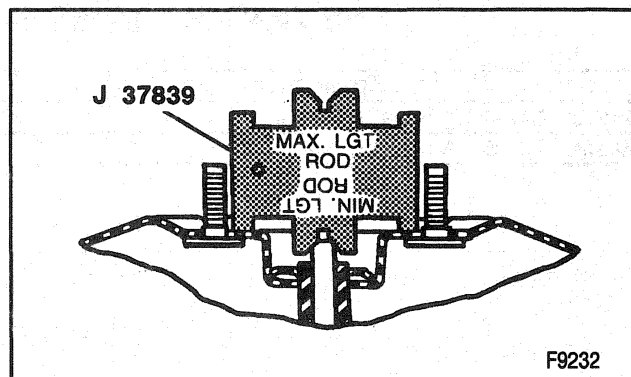

Figure 3—Gaging the Piston Rod
1. Gage the piston rod using J 37839 (Figure 3).